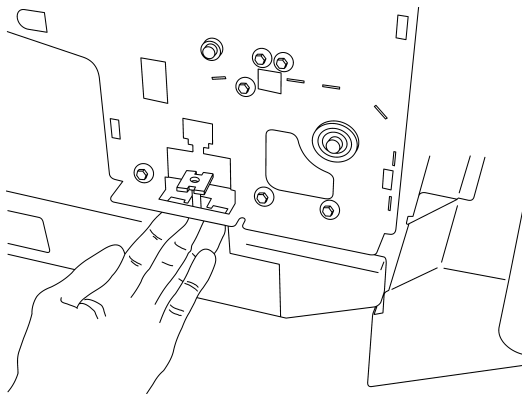

Figure 4, view of lifting the Cover Feeder and installing the Front Installation Bracket.
14. Start the dead cycle program on the Booklet Maker by holding in the Program select button and switching on the Main power switch, according to figure 4.
9. Lift the Cover Feeder on the front side, and install the Front Installation Bracket in the Cutout on the Cover Feeder frame, according to figure 4.